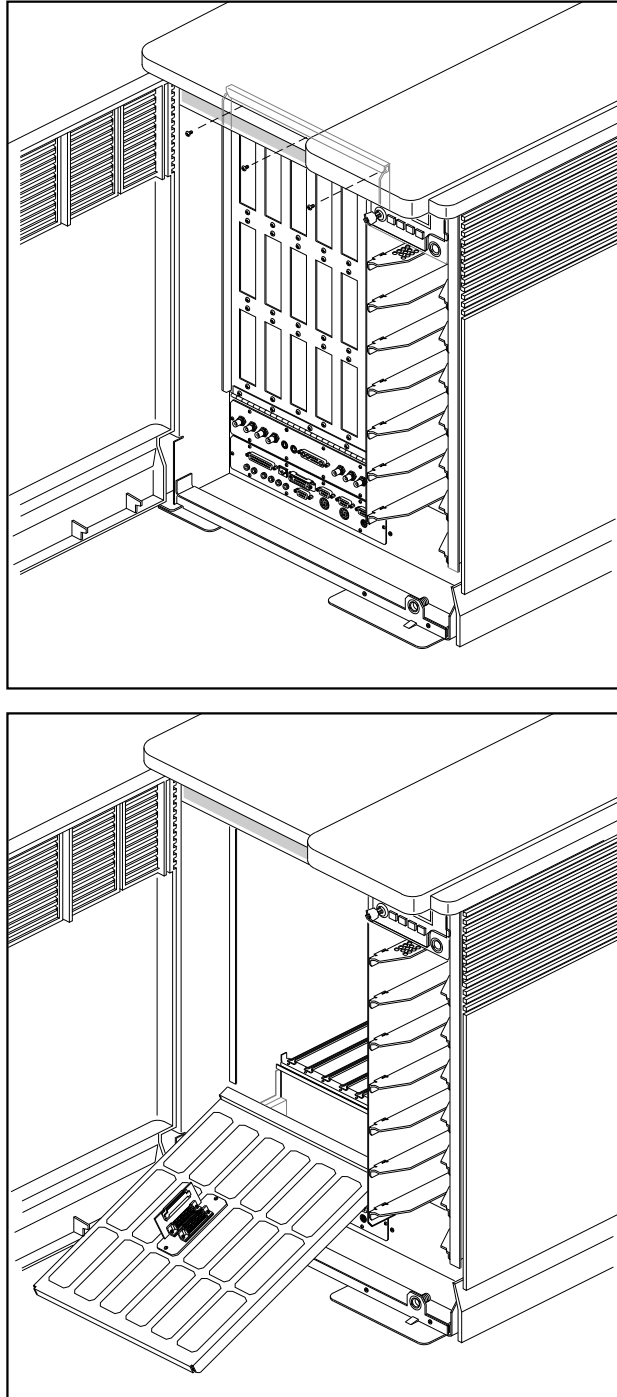

Figure 5-71 Opening the I/O Door
5. Release the I/O door by removing the three screws on the door's upper edge, as shown in Figure 5-71.